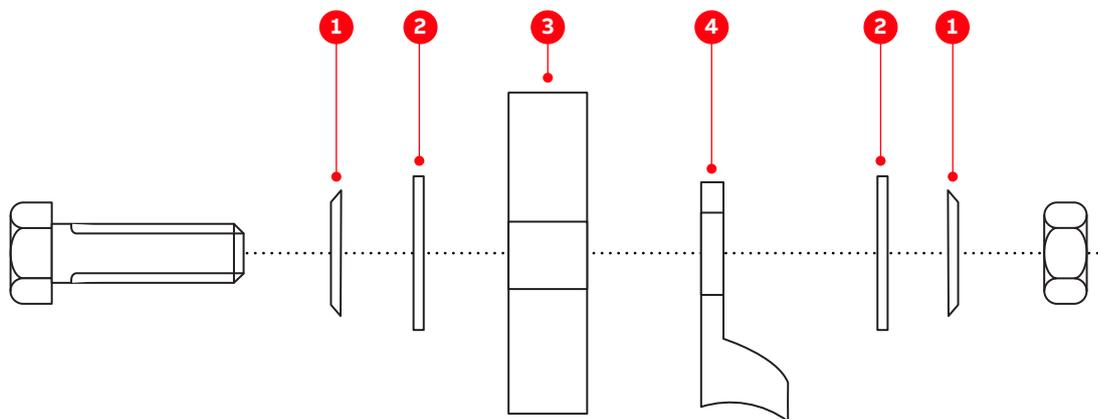

Figure 6-19 Bolted busbar connection
The following connection type is recommended when a cable lug (Fig. 6-19: 4) is connected to a busbar:
- Spring washer (Fig. 6-19: 1) and flat washer (Fig. 6-19: 2) on each side of the busbar (Fig. 6-19: 3).